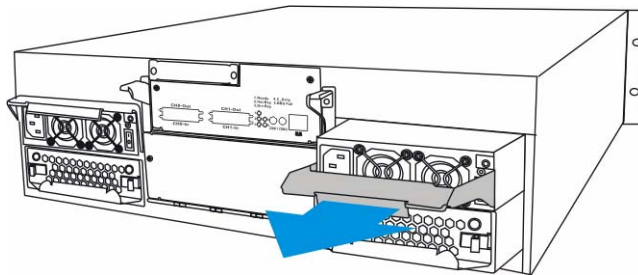

Fig. 6.14 Dislodging the PSU
- After the PSU module has been dislodged from the enclosure, use the handle to gently pull the PSU module out of the enclosure. (See *Figure 6.14*)